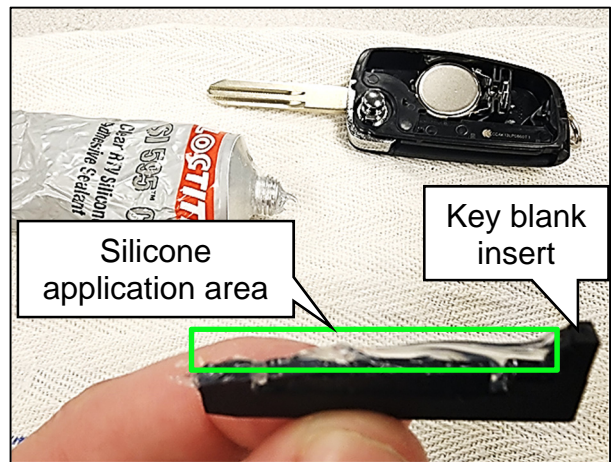

Figure 6
5. Orient the key blank insert as shown in Figure 6.
6. Place a small amount of clear silicone onto the edge of the key blank insert, as shown in Figure 6.